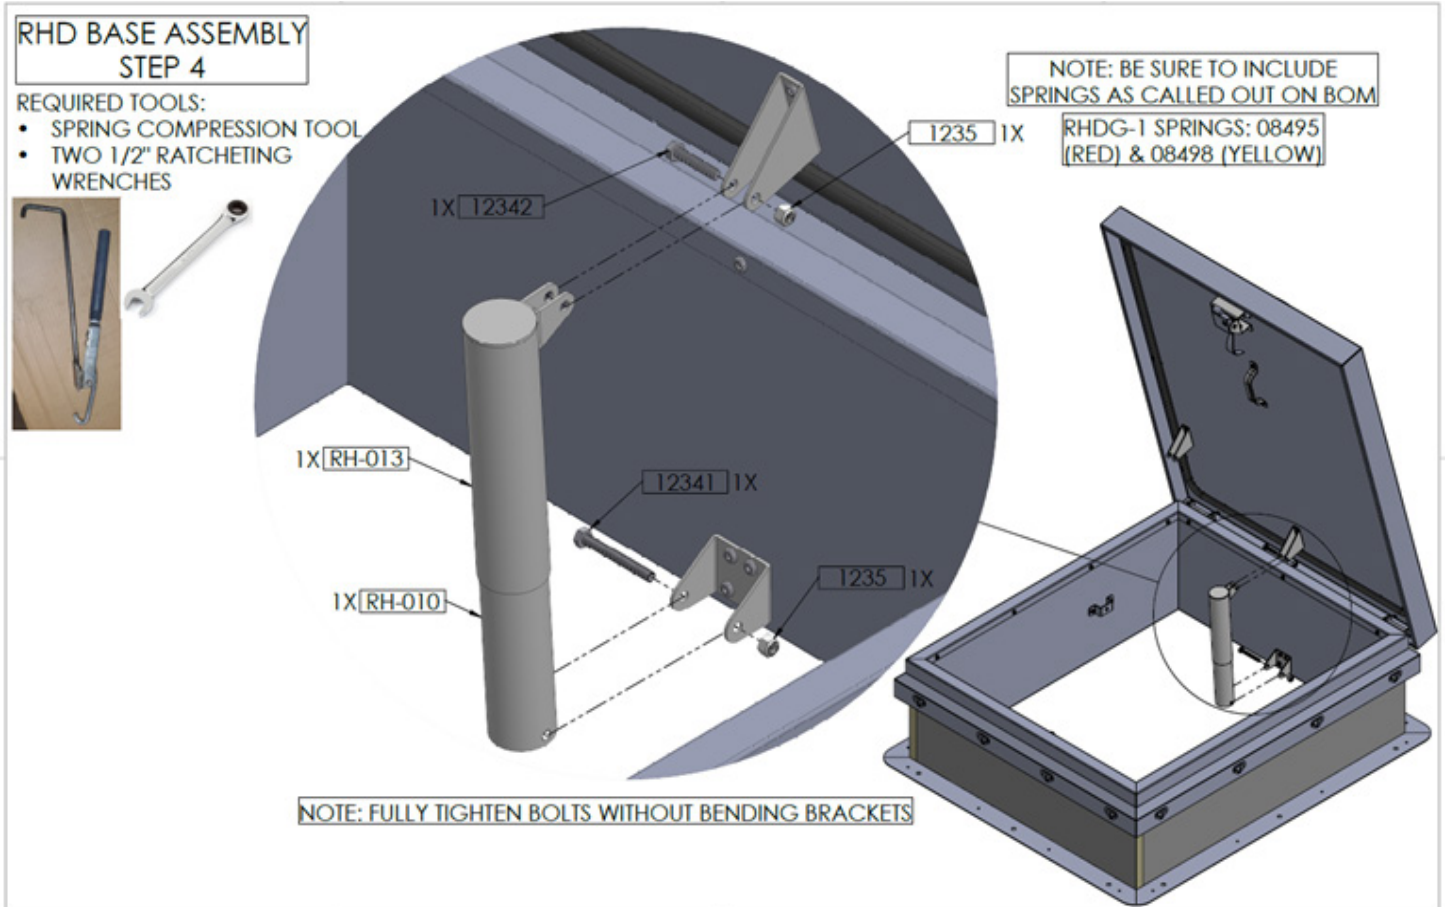

Fig. 3
9. Using the two 1/2" wrenches, attach bottom spring housing cylinder to curb bracket using the longer bolts and nuts (Fig.3).
13. Secure the top cylinder to the lid bracket using 1 1/2" long bolts and nuts with two 1/2" wrenches (Fig.3).